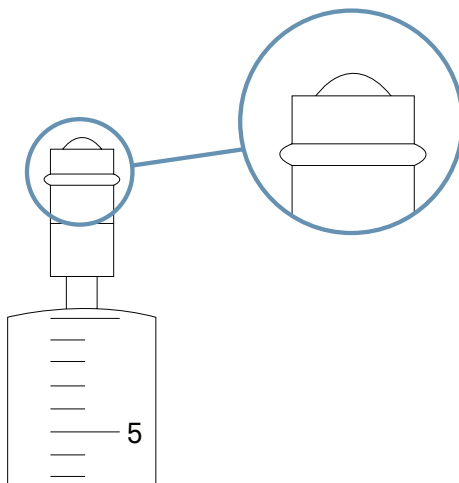

Figure 18 Build a meniscus
10. Push the plunger of the syringe until a meniscus builds up on the tube piece (Figure 18).